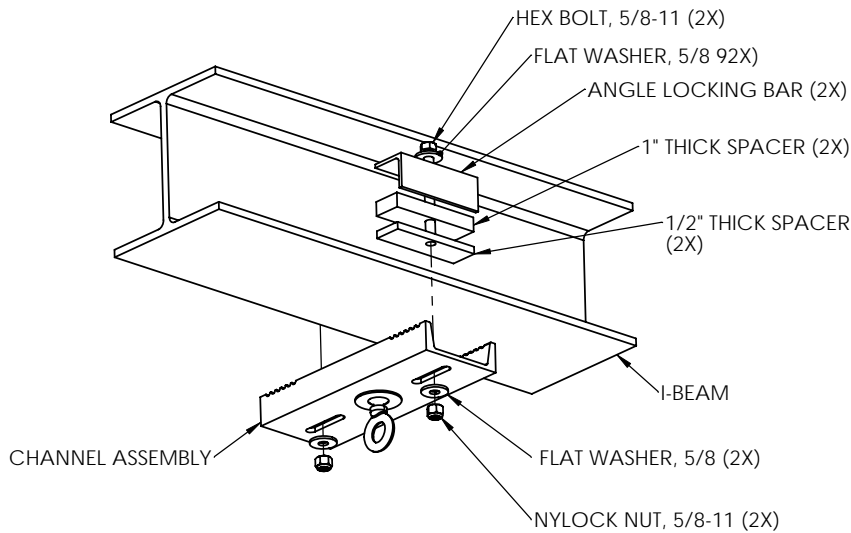
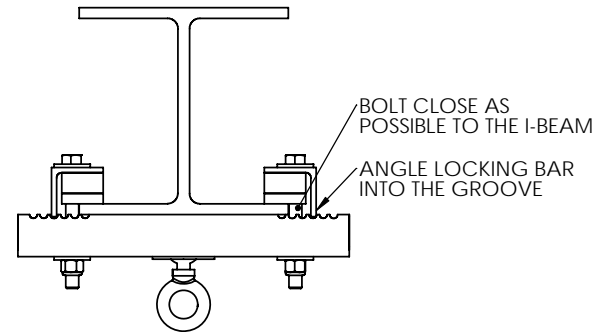

FIGURE 2 (SHOWN WITH 1" AND 1/2" THICK SPACERS)
FIGURE 3
2. ATTACH THE SWIVEL BEAM CLAMP TO THE STRUCTURE I-BEAM'S FLANGE. PLACE THE APPROPRIATE NUMBER OF SPACERS (1", 1/2", 1/4" OR 1/8" THICK) IN BETWEEN THE ANGLE LOCKING BAR AND THE TOP OF THE I BEAM TO ACCUMUDATE THE THICKNESS OF THE I-BEAM'S FLANGE. ASSEMBLE THE LOCKING ANGLE BAR, FLAT WASHER, SPACERS, AND NYLOCK NUT ONTO THE I-BEAM (FIGURE 2).. MAKE SURE THE ANGLE LOCKING BAR SITS ON THE GROOVES OF THE CHANNEL (FIGURE 3).
3. MAKE SURE THE ANGLE LOCKING BAR SITS ON THE GROOVES OF THE CHANNEL AND THE BOLTS ARE CLOSE AS POSSIBLE TO THE I-BEAM (FIGURE 3)